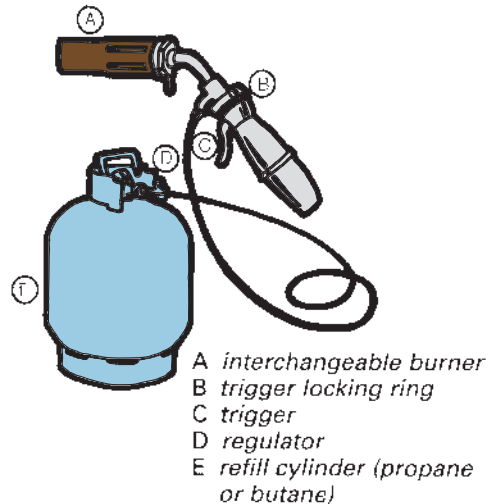

Fig. 1.38 Independent gas torch
- **Independent torch** (Fig. 1.38)